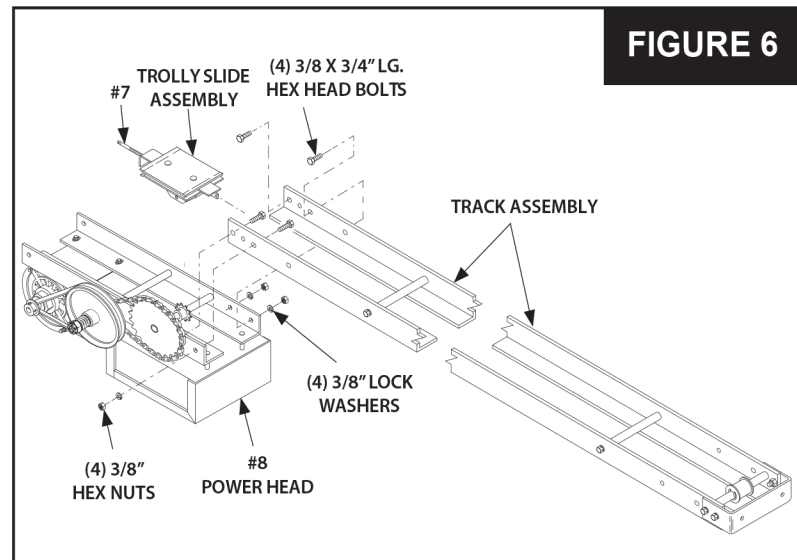

FIGURE 4
1. Install Trolley Slide Assembly on Track Assembly with Chain Take-up Bolt (#7) pointing towards end of track where Power Head (#8) will be mounted as shown in **Figure 4**.
2. Mount Power Head to Track Assembly using four 3/8 x 3/4 Long Hex Head Bolts, four 3/8 Lock Washers and four 3/8 Hex Nuts, as shown in **Figure 4**.